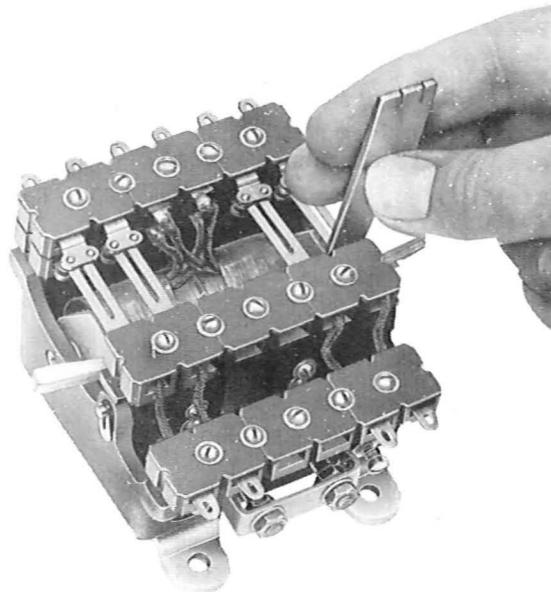
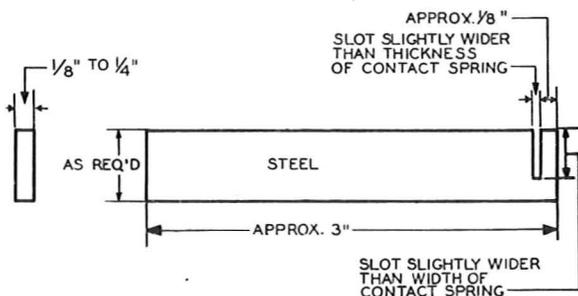
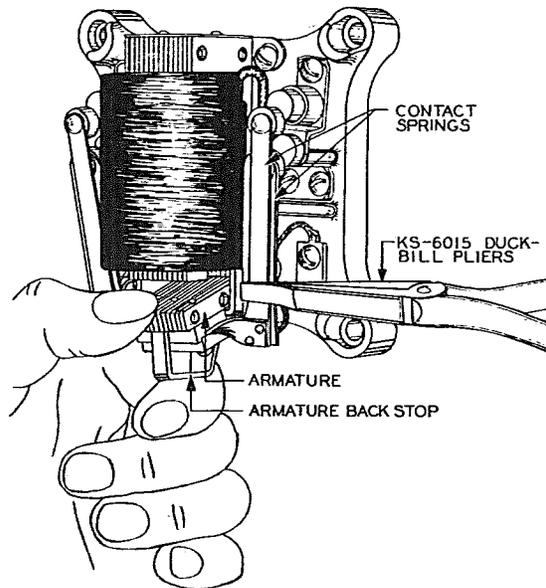

Fig. 7 - Method of Adjusting Contact Springs Using T-40010 or Fig. 6 Tool and Method of Blocking KS-5635 Relay Operated
Fig. 6 - Method of Making Adjusting Tool
Fig. 8 - Method of Adjusting for Contact Pressure and Contact Sequence
(The Signal Engineering and Manufacturing Company's T-40010 tool is suggested where a large number of split springs, other than those on KS-5635 relay, are to be adjusted or where access to springs from the side is impossible. A similar tool can be made as shown in Fig. 6 for use on KS-5635 relays and on relays not having split springs.)
(b) For this work duck-bill pliers, No. 363 tool having 0.018-inch straight slot, No. 356 tool having 1/16-inch and 0.025-inch, 90-degree slots, T-40010 tool shown in Fig. 7, or a tool made locally per Fig. 6 should be selected, depending on number, size, and location of springs to be adjusted, location of relay, and adjacent apparatus, etc. With heavy springs such as found on E-type relays, pliers must be used even if this makes removal of the relay from the panel necessary. For the
inside springs of KS-5635 relays, No. 356 tool, T-40010 tool, or a tool per Fig. 6 is preferred. For the inside spring of A-type relays, the T-40010 tool is most convenient. The use of T-40010 tool and tool per Fig. 6 is illustrated in Fig. 7.
(1) On relays not having split springs, adjust for contact sequence as required with the duck-bill pliers. To do this, place the pliers at a point about 1/4 inch from the point where the spring is riveted to the armature as shown in Fig. 8 and adjust the spring at this point, as required. When access to the springs from the side is impossible and for KS-5635 relays, follow 3.03(1)(b). When a satisfactory adjustment cannot be obtained in this manner, distribute the tension as outlined in 3.03(1). It is expected that no further adjustments will be necessary. However, on C-, D-, S-, SC-, SS-type, KS-5635, and KS-15601 relays, ← further adjustment can be made by changing the position of the stationary contacts as outlined in 3.03(2). If any adjustments are made, recheck alignment (2.03).
(2) **Normally Open Contacts:** While checking pressure on NO contacts the relay must be held or blocked operated. The KS-5635 relay can be blocked operated with a small wedge on each side of the armature, as shown in Fig. 7. If the pressure between contacts is not satisfactory, hold the armature against the backstop and increase the tension of the spring, adjusting it towards the contact by applying the KS-6015 duck-bill pliers close to the riveted base of the spring, as shown in Fig. 8. In adjusting the springs, exercise care not to twist them, since this will prevent the contacts from resting flat against each other. When access to the springs from the side is impossible, follow 3.03(1)(b). If the spring is bowed or bent, follow 3.03(1). If a satisfactory adjustment of split contacts cannot be obtained as outlined above, make further adjustments in accordance with 3.04(2). On KS-5635 and KS-15601 relays a further adjustment can be made as outlined in 3.06(5). If any adjustments are made, recheck alignment (2.03) and sequence (2.04).